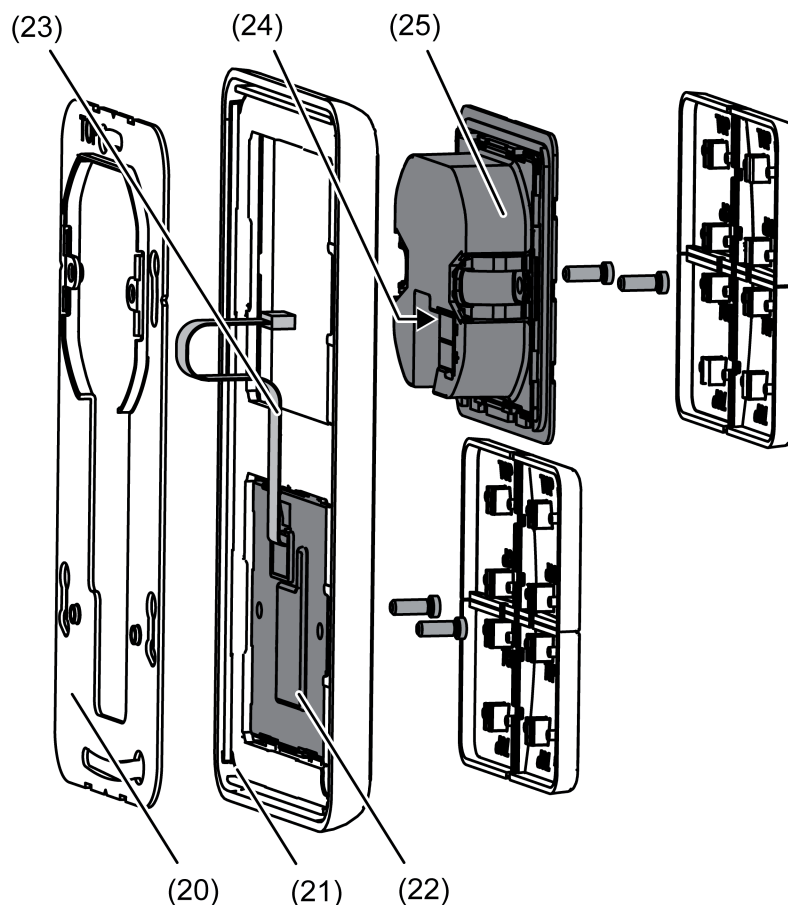

Figure 6: Assembling the push-button sensor expansion module
One push-button sensor expansion module can be connected to each push-button sensor basic module. When assembling a push-button sensor expansion module, the large supporting frame (20) must be fitted (figure 6). The large supporting frame is contained in the scope of supply of the push-button sensor expansion module.
The preferred installation orientation for both devices is vertical with the push-button sensor basic module installed on top (figure 6).